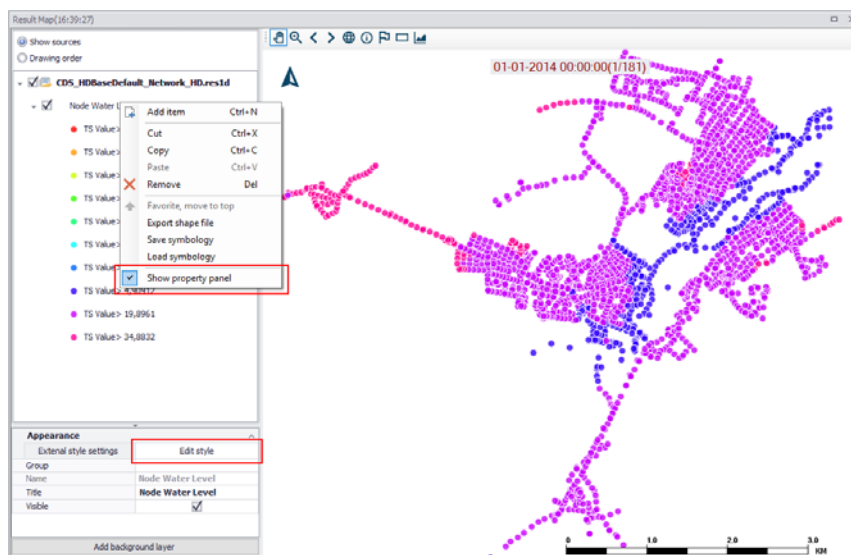

Figure 20.17 Edit a result layer symbology and label via the 'Edit style' option
- On the left panel of the result plot, right-click on the result item layer and choose 'Show property panel' from the local context menu. The property panel appears at the bottom left corner of the window (Figure 20.17).
- Expand the 'Appearance' property line in the property panel by clicking on the dropdown icon. The 'Edit style' option is then displayed below the line (Figure 20.17).